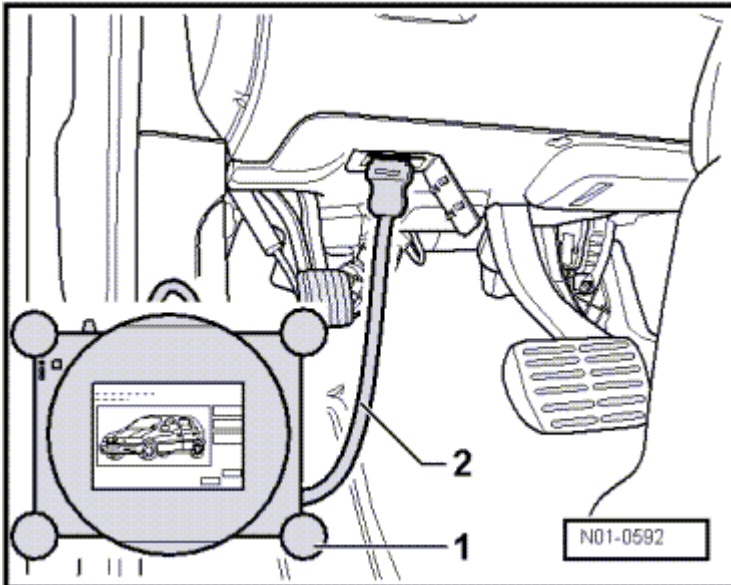

Fig. 32: Data Link Connector (DLC)
- Component location: Front footwell on the driver side **Fig. 32**